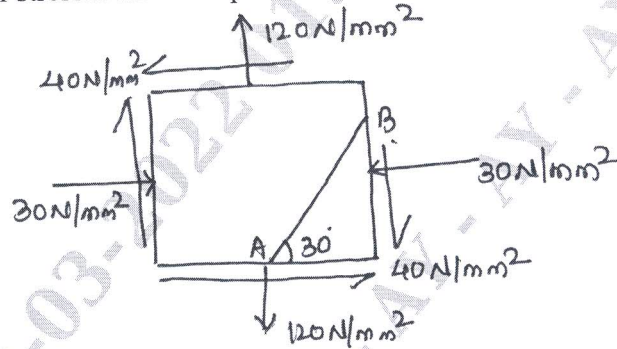

Fig.Q3(a)
- 3 At certain point in a strained material the stress condition shown in Fig.Q3(a) exists. Find: